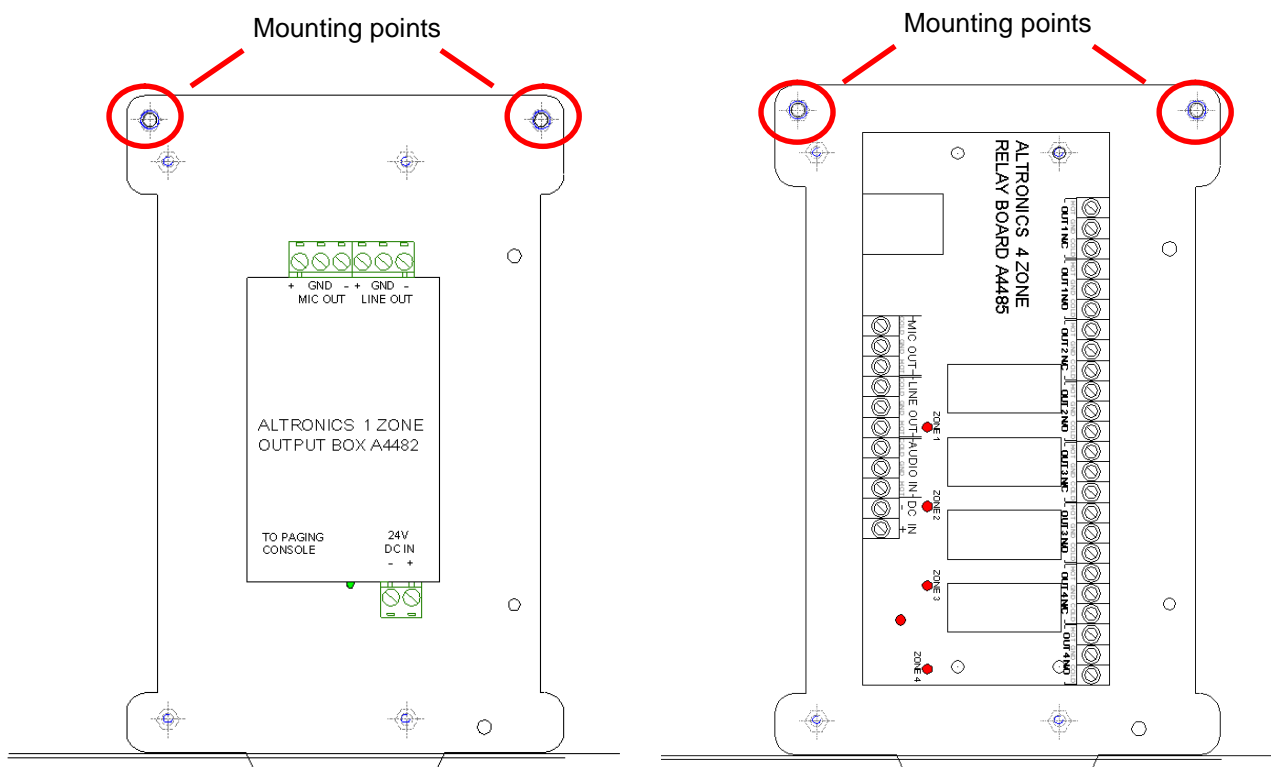

Figure 1 – Remote paging console interface module mounting
3. Mount the paging console interface module as shown in **Figure 1** and use the supplied screws to fasten it to the CHS mounting plate.